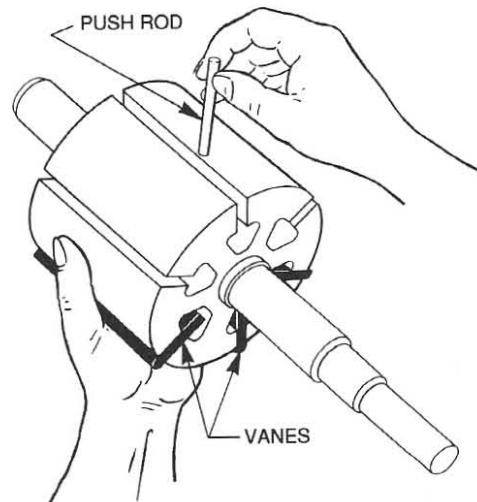

Figure 5 - Push Rod Installation\*
- b. Hold the vanes in place while inserting the push rods (77) from the top, as shown in Figure 5.